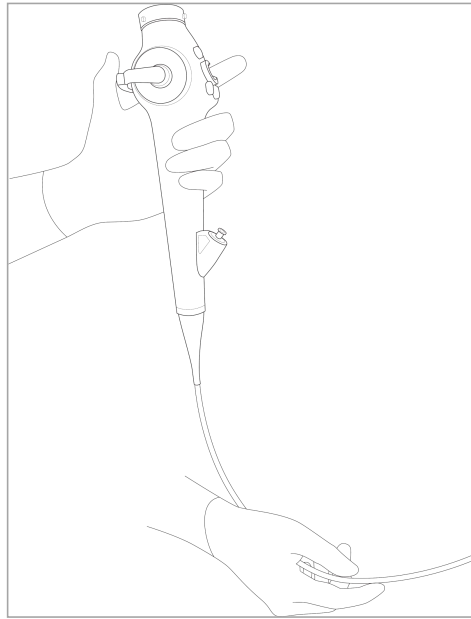

Fig. 7.9
1. To handle the Small Animal Endoscope with hands, pick up the operating section with one hand and carefully hold the tip of the insertion tube with the other hand, but do not squeeze it (as shown in Fig. 7.9).